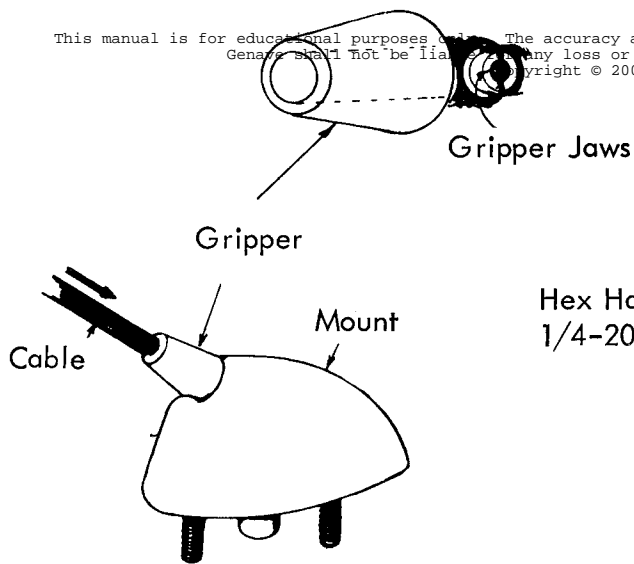

Figure 7
6. Insert remaining end of the antenna wire into the gripper of the fuselage mount. See figure 7.